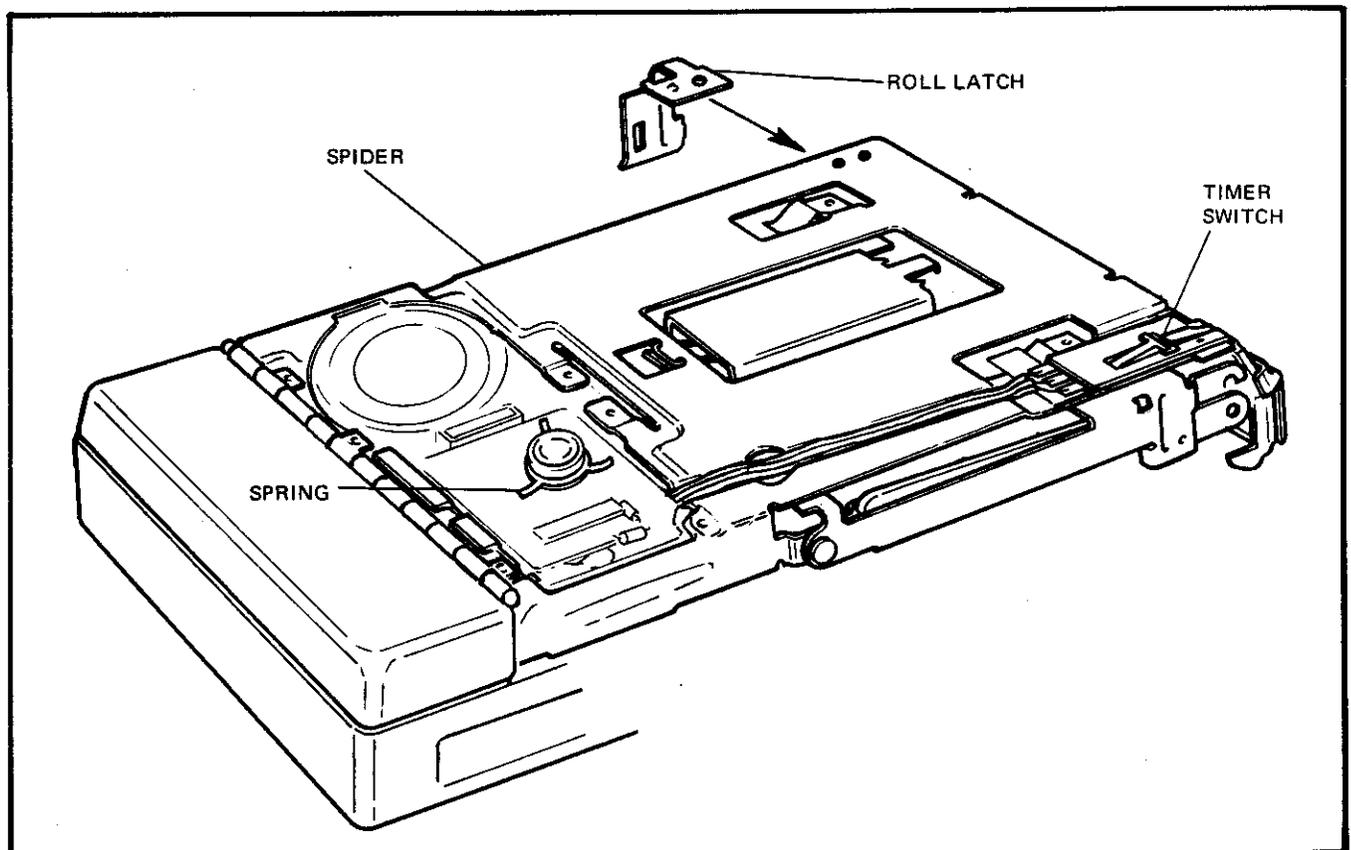

FIG. 5.37 UNSOLDERING THE SWITCH LEADS
- Remove the insulator and then unsolder the three black leads from timer switch (Figure 5-37). Remove the timer assembly.